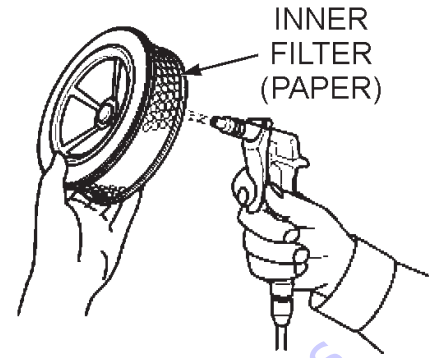

Figure 38. Cleaning Inner Paper Filter
5. Tap the paper filter element (Figure 38) several times on a hard surface to remove dirt, or blow compressed air [not exceeding 30 psi (207 kPa, 2.1 kgf/cm²)] through the filter element from the air cleaner case side. **NEVER** brush off dirt. Brushing will force dirt into the fibers. Replace the paper filter element if it is excessively dirty.